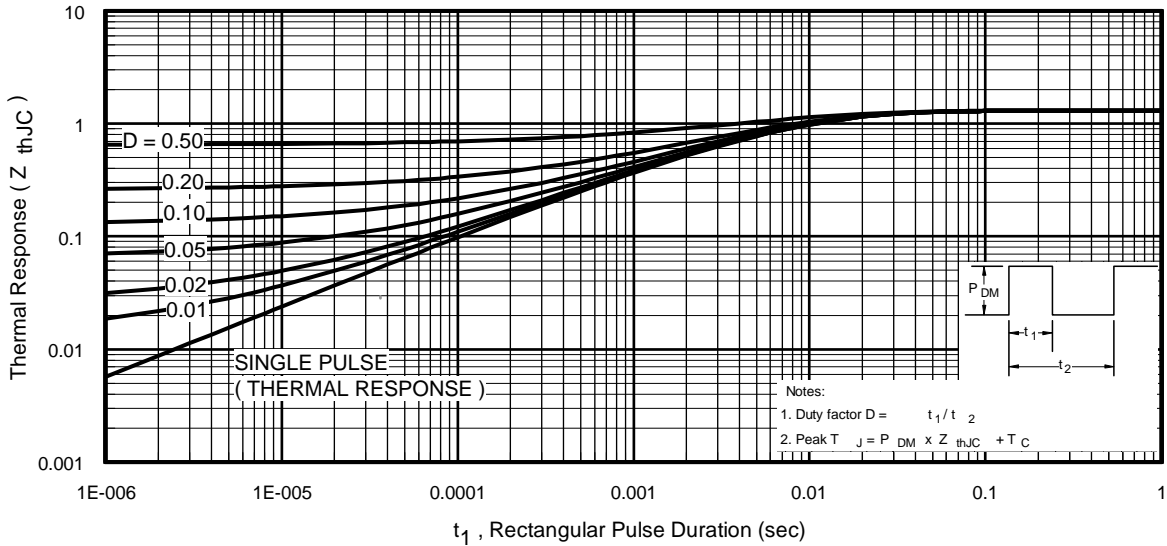
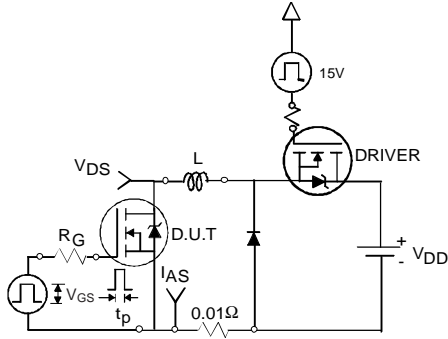

Fig 11. Maximum Effective Transient Thermal Impedance, Junction-to-Case
Fig 12a. Unclamped Inductive Test Circuit
3. Equation below based on circuit and waveforms shown in Figures 12a, 12b.
$Z_{thJC}(D, t_{av})$ = Transient thermal resistance, see figure 11)
- ① Repetitive rating; pulse width limited by max. junction temperature. (See fig. 11).
- ② Limited by T_{Jmax} , starting $T_J = 25^\circ\text{C}$, $L = 0.71\text{mH}$, $R_G = 25\Omega$, $I_{AS} = 23\text{A}$, $V_{GS} = 10\text{V}$. Part not recommended for use above this value.
- ③ $I_{SD} \leq 23\text{A}$, $di/dt \leq 400\text{A}/\mu\text{s}$, $V_{DD} \leq V_{(BR)DSS}$, $T_J \leq 175^\circ\text{C}$.
- ④ Pulse width $\leq 1.0\text{ms}$; duty cycle $\leq 2\%$.
- ⑤ C_{oss} eff. is a fixed capacitance that gives the same charging time as C_{oss} while V_{DS} is rising from 0 to 80% V_{DSS} .
- ⑥ Limited by T_{Jmax} , see Fig.12a, 12b, 15, 16 for typical repetitive avalanche performance.
- ⑦ This value determined from sample failure population. 100% tested to this value in production.
- ⑧ When mounted on 1" square PCB (FR-4 or G-10 Material). For recommended footprint and soldering techniques refer to application note #AN-994.